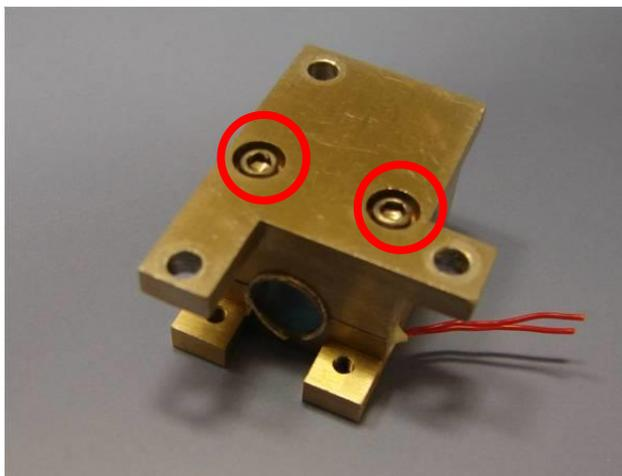

Figure 25: Screws securing halves of YAG Crystal Holder together
- 4.26. While wearing gloves, grasp the YAG crystal holder and remove the two screws that hold the halves together (Figure 25).